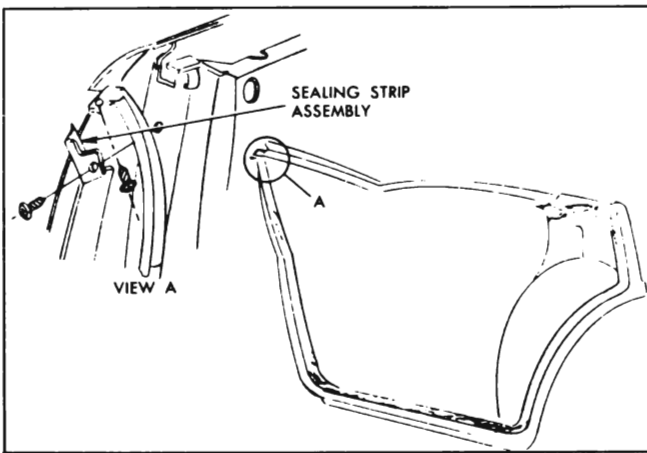

Figure 13-30—Rear Door Hinge Pillar Sealing Strip
2. On front doors remove screws securing weatherstrip to ventilator frame and screw(s) securing lock pillar end of weatherstrip. On rear doors remove screws securing ends of weatherstrip to hinge pillar and lock pillar. (See figure 13-30.)